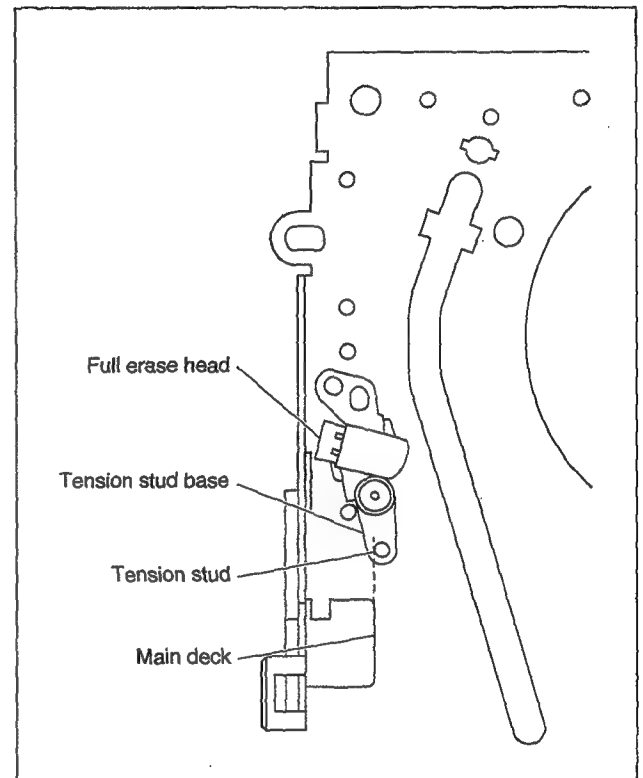

Fig. 2-4-9
- (1) Adjust so that the left side of the tension stud is on the extension of the notch line of the main deck as indicated in Fig.2-4-9.